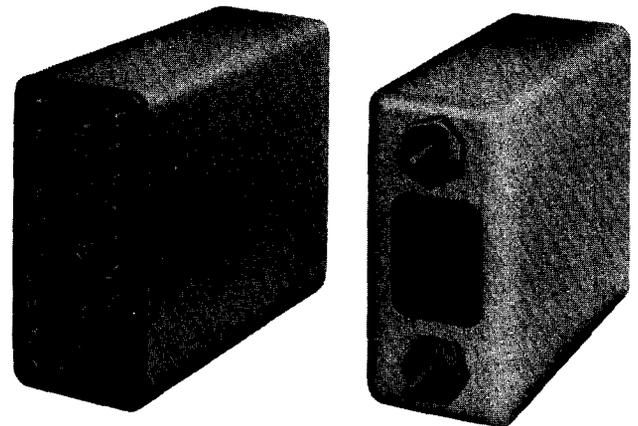

Fig. 1—837B Network
2.01 The 837B network (Fig. 1) fits into an aluminum can approximately 1.7 inches wide, 3.3 inches high, and 4.3 inches deep. The network is stud-mounted and equipped for solderless wrapped connections that extend from the rear of the network. The front of the network incorporates screw switches for line and drop building-out capacitance, line building-out resistance, and low-frequency correction. A 239C jack is provided for test purposes, and pin jacks are provided so that external DBOC may be used during lineup.